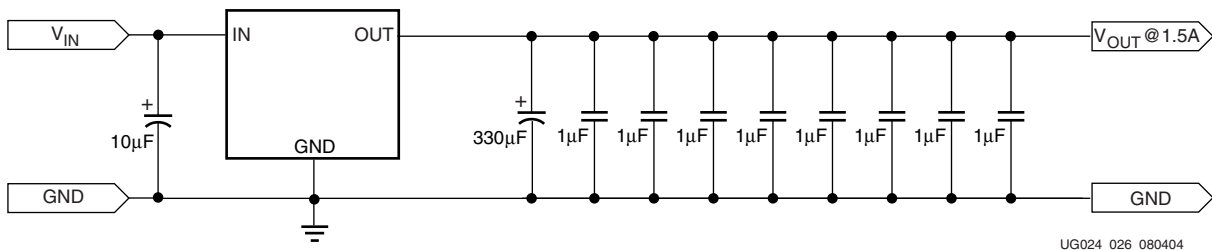

Figure 3-7: Power Supply Circuit Using Approved Regulator
- Must be used in the circuit given in Figure 3-7.
Vendor application examples typically recommend a 10 μF capacitor on the input and a 10 μF capacitor on the output of the regulator. For use with RocketIO transceivers, Xilinx requires that this be modified according to the capacitor topology shown in Figure 3-7. The 10 μF capacitor on the input is not changed. However, the 10 μF output capacitor is replaced with one 330 μF capacitor and eight 1.0 μF capacitors. In cases where more than 16 MGTs are powered from a single regulator, an additional 1.0 μF capacitor is required for every two additional MGTs. Tantalum is the recommended capacitor type for the 330 μF capacitor, though the low-ESR electrolytic type is also acceptable. X7R or X5R ceramic is the recommended capacitor type for the 1.0 μF and 10 μF capacitors. These capacitors can be placed anywhere on the board, but preferably in close proximity to the regulator.